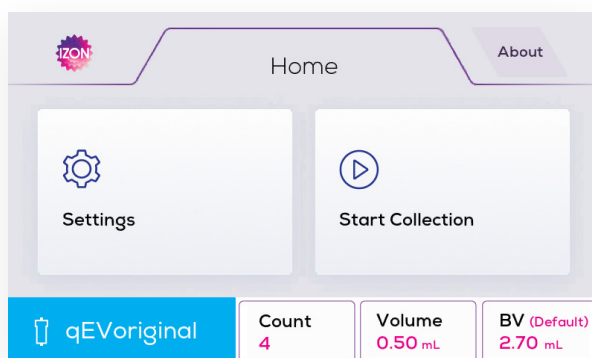

Figure 6: Press Settings on the home screen
1. Press **Settings** on the left-hand side of the home screen as shown in Figure 6 below: